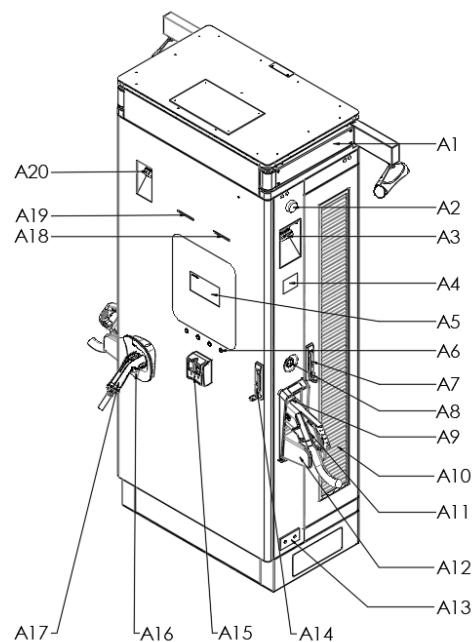
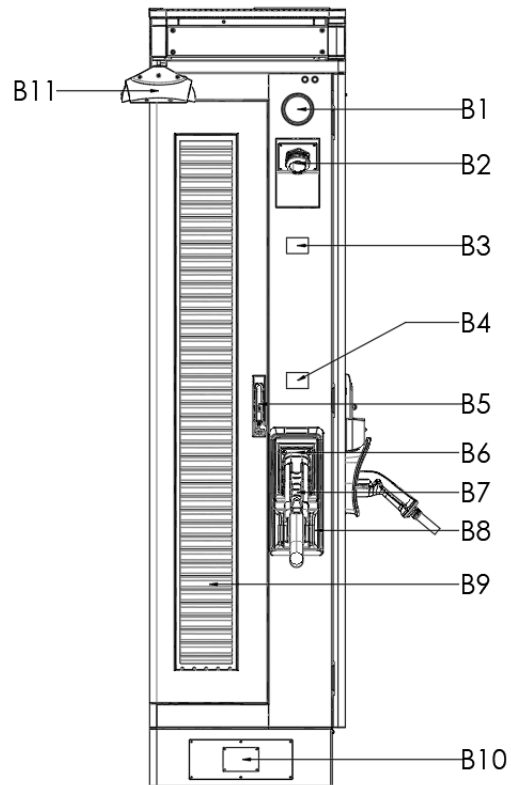

Figure 6 Front view of components
Figure 7 Side member view
- (1) The components of the product facade are shown in Figure 6 and Figure 7